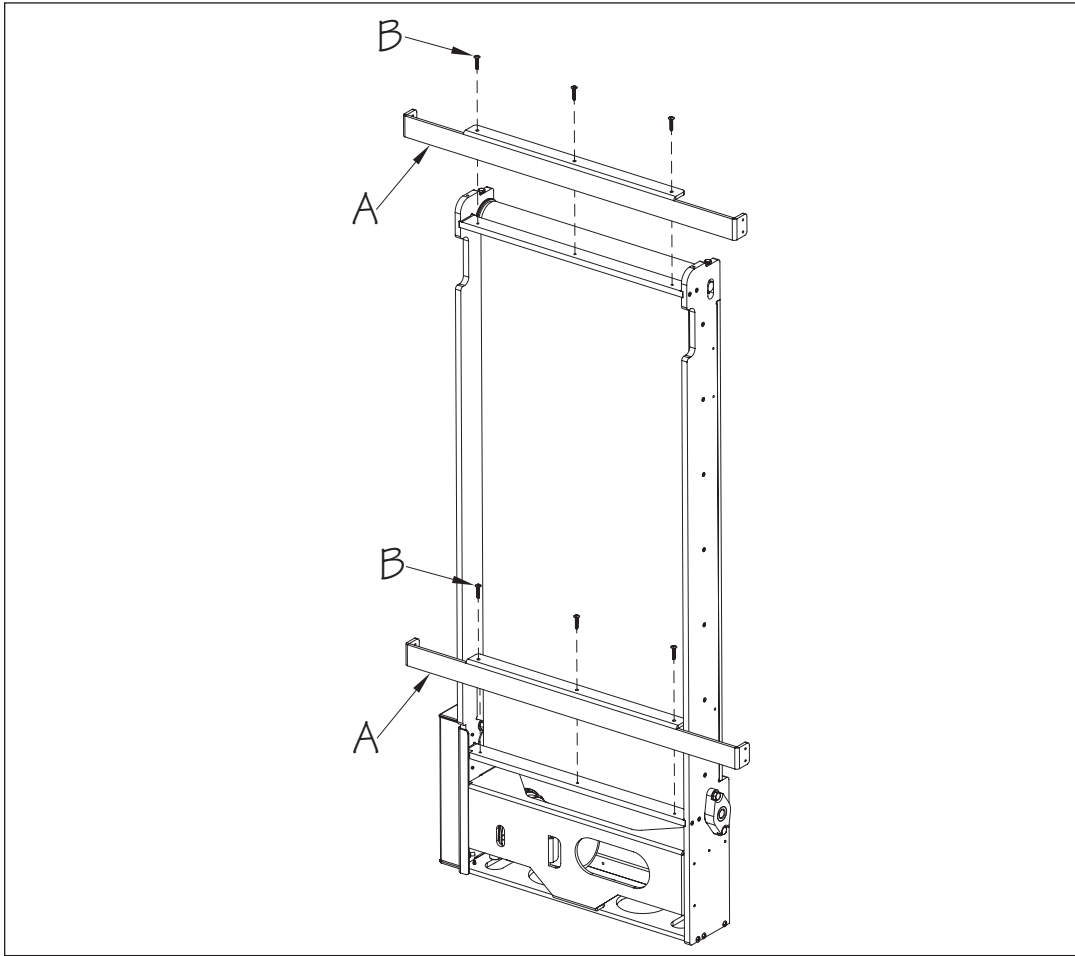

Fig. 4
2. Attach the Bottom Plates (A) to the underside using the 1" (25mm) Phillips Truss Head Screws (B) (Fig. 4). After this step has been completed, carefully lower the unit to the ground.